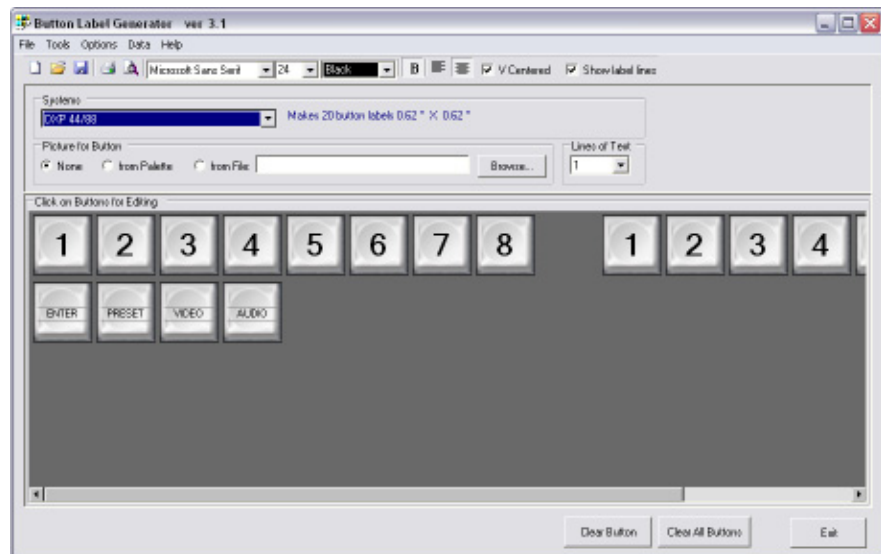

Figure 5-9 — Extron’s Button-Label Generator window
1. To run the Button-Label Generator program, double-click on the Button-Label Generator icon (shown at right) in the Extron Electronics group or folder, and click OK when prompted. The Button-Label Generator window appears (figure 5-9).